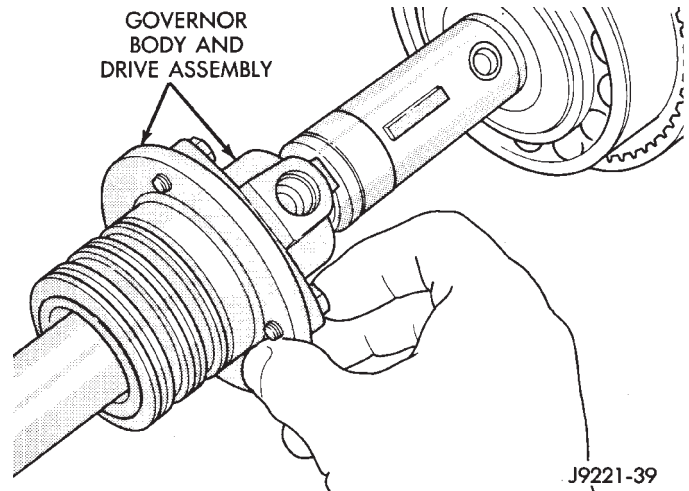

Fig. 18 Removing/Installing Governor Body And Drive Assembly
- (3) Remove governor body and drive as assembly (Fig. 18).